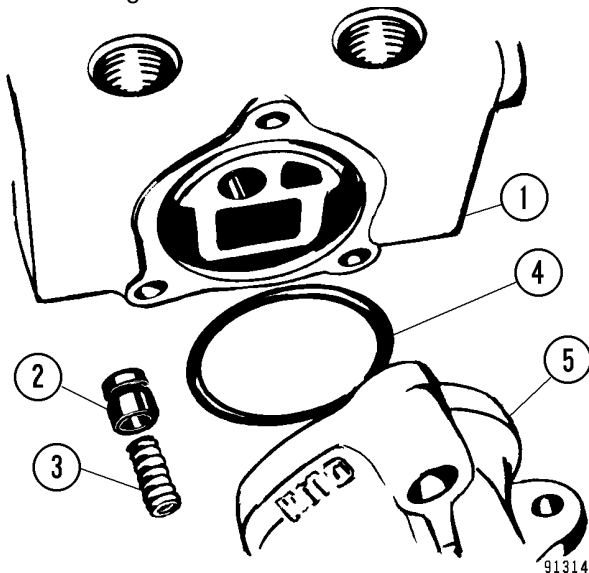

FIGURE 8-15. HOIST PILOT VALVE REASSEMBLY
3. Install check poppet (2, Figure 8-15) and spring (3) in spool housing (1).
4. Install new O-ring (4) in spool housing. Place the inlet and outlet housings on the spool housing.